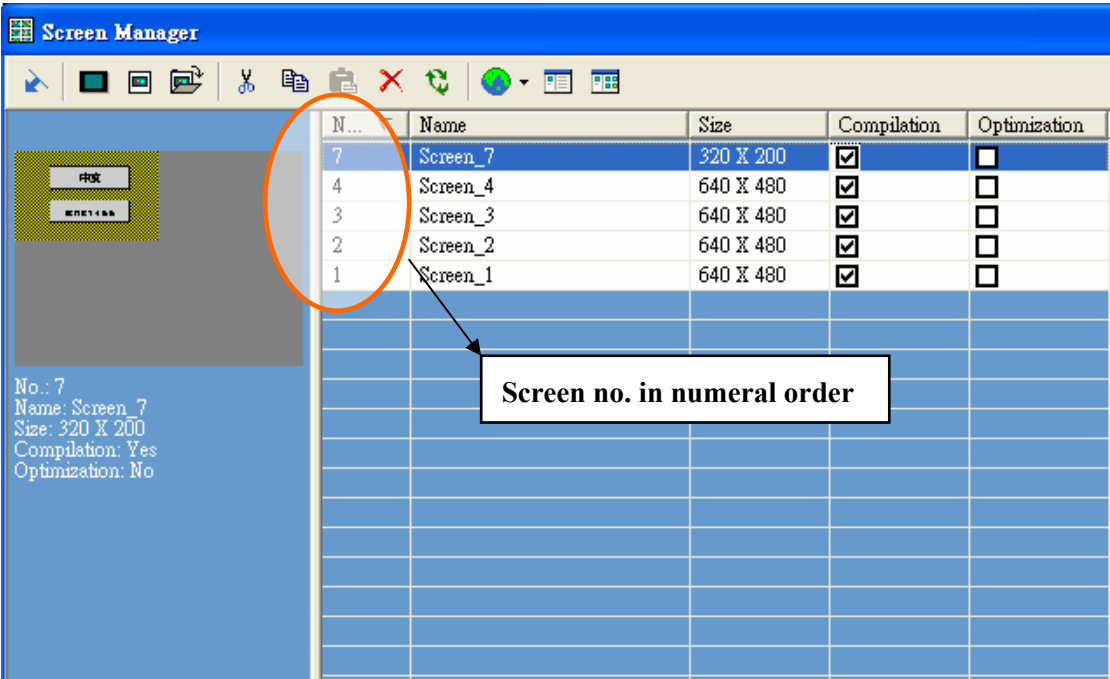

Figure 50. [No.] in numeral order
-  [Detail View]: To view the detail data of screens in list. See Figure 50.
On the [Screen Manager], select the [Detail View] button. The detailed data will be listed in the table including five columns: [No.], [Name], [Size], [Compilation] and [Optimization]. While click the headline, the data will be listed in increased or decreased order such as numeral order, dimensional order, and so on. See Figure 50.